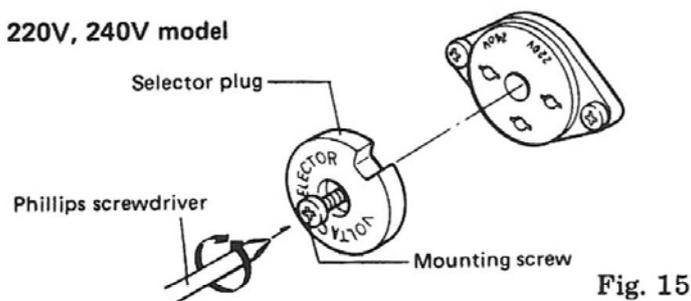

Fig. 15
These models are designed to accept different line voltages, according to the country in which they are to be used, although the operation of the various models is the same in every respect. Fig. 15 shows the model designed to operate at any of two pre-selected voltages (220V, 240V).
2. Use Phillips screwdriver to loosen mounting screw, then remove SELECTOR plug (Fig. 15).